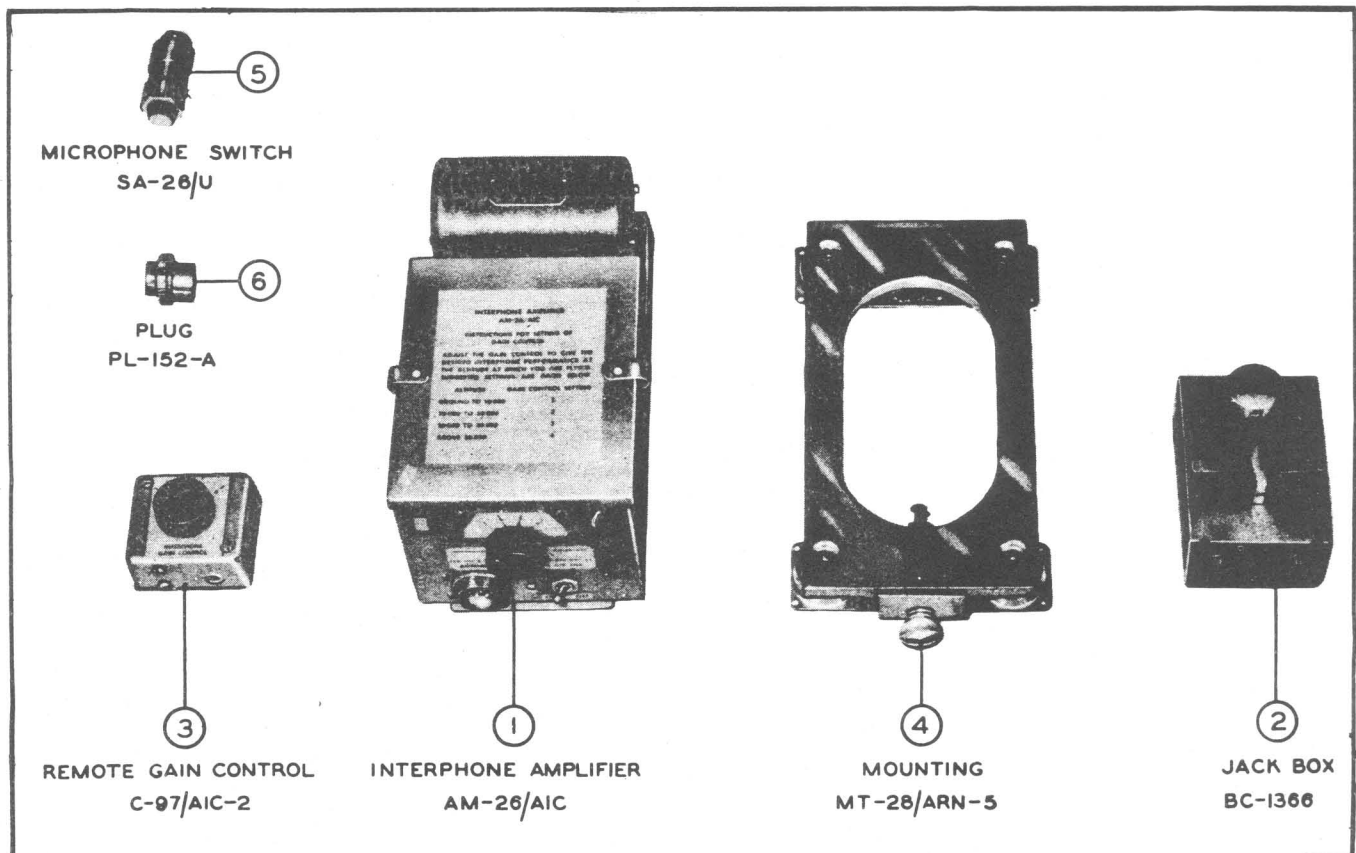

Figure 1-1. Interphone Equipment AN/AIC-2 or AN/AIC-2A—Major Assemblies
a. Interphone Equipment AN/AIC-2 and AN/AIC-2A are used in high altitude multiplace aircraft to provide interphone communication between the various interphone stations within the airplane. (See fig. 1-1.) Switching facilities for partial control of three complete radio sets and one additional radio receiver are provided.